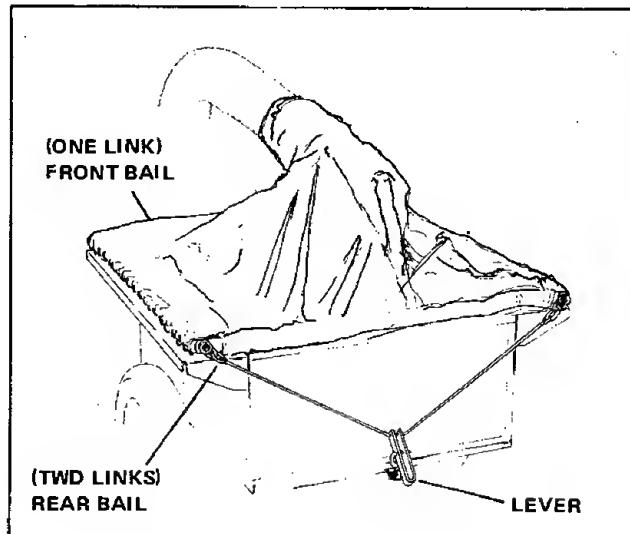

Figure 23. Assembling Cover Bails
7. Insert each bail through slotted hole in lever and center the lever on the bail (figure 23).
8. Attach one link to each end of the front bail and two links to each end of the rear bail (figure 23).